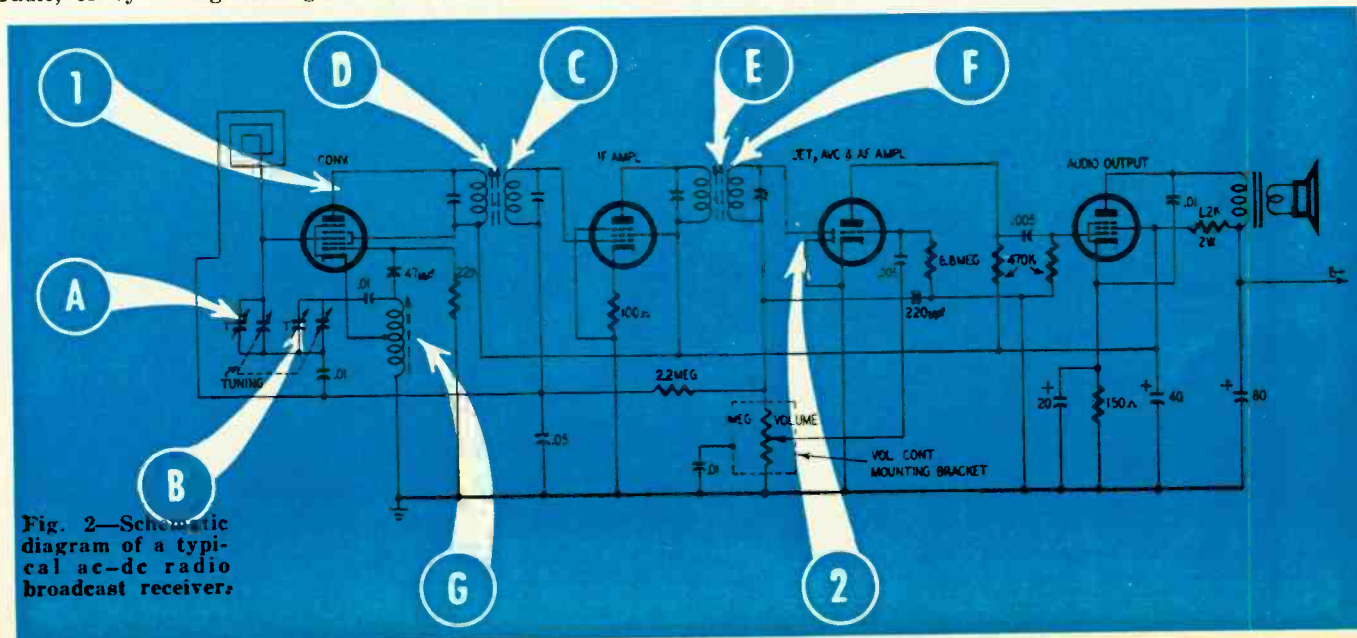

Fig. 2—Schematic diagram of a typical ac-dc radio broadcast receiver.
1. Connect the if probe of the signal tracer to the plate of the mixer (point 1) in the receiver (see Fig. 2.)
4. Adjust the oscillator trimmer (B) until the station is heard through the signal tracer. Make sure you have the right station by listening on another radio, or by tuning the signal tracer